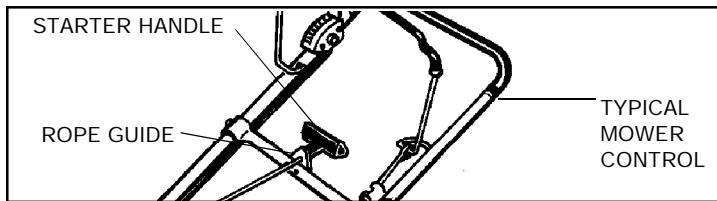

Figure 3
- a) **RECOIL STARTERS:** Grasp starter handle (figure 3) and pull rope out slowly until you feel drag. Let rope rewind slowly. Pull rope with rapid, full arm stroke. Return rope slowly to original position. **NOTE:** If engine fails to start after three pulls, repeat steps 2-3 above.
- a) **RECOIL STARTERS:** Grasp starter handle (figure 3) and pull rope out slowly until you feel drag. Let rope rewind slowly. Pull rope with rapid, full arm stroke. Return rope slowly to original position.